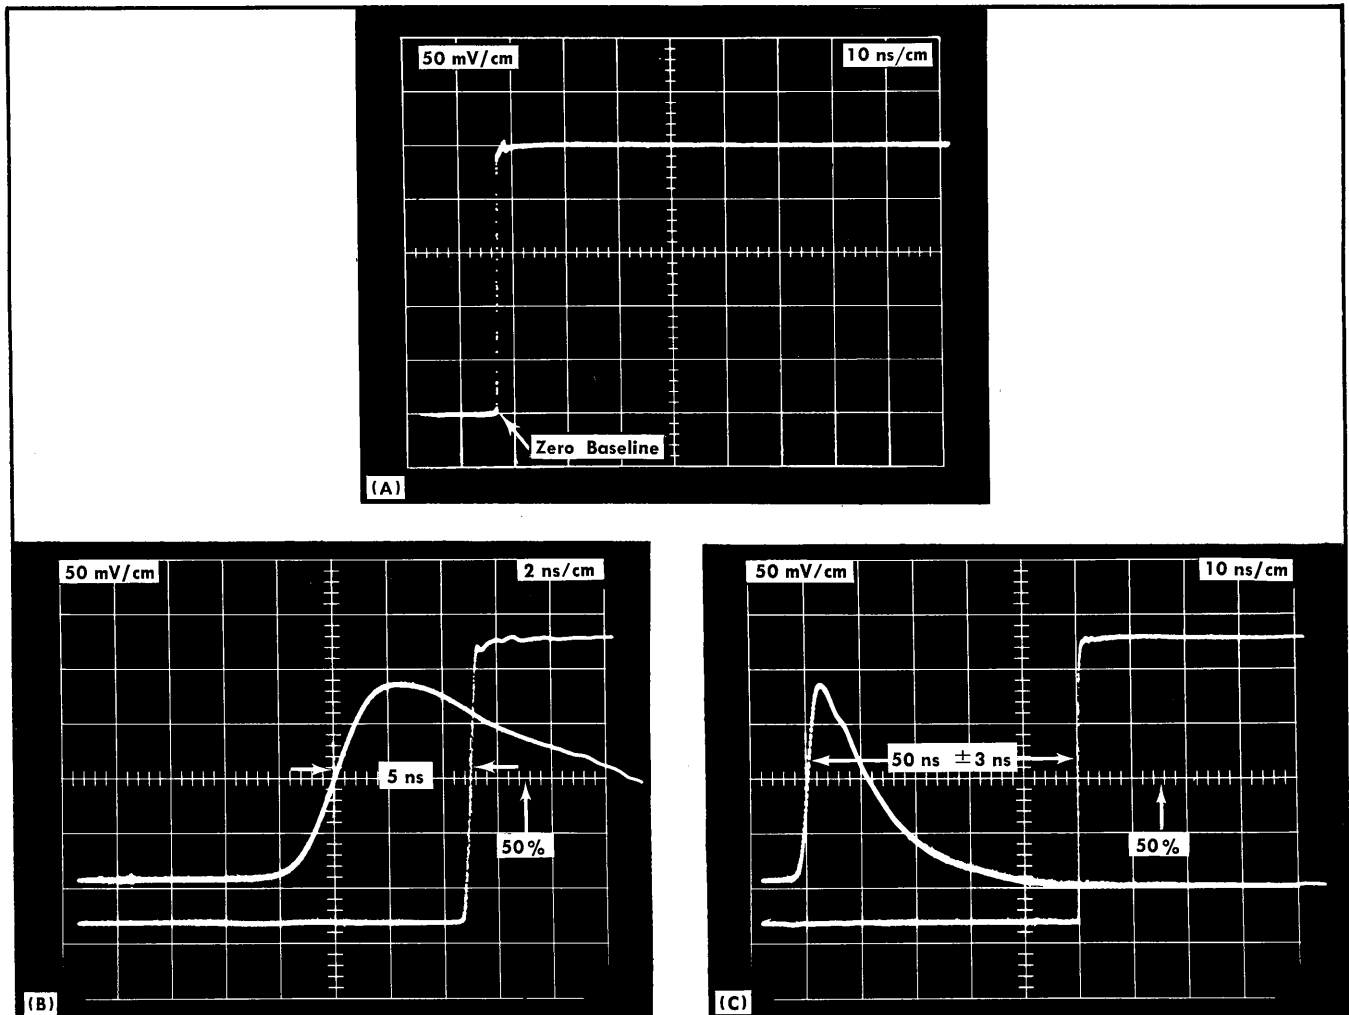

Fig. 6-26. Typical displays (A) used in steps 15 and 16, (B) used in step 17, (C) used in step 18.
b. Adjust the Trig Level on the Type 5T3 for a stable trace. The trace should appear similar to Fig. 6-26 if the TD BIAS is properly adjusted.
If no triggered display can be obtained, use the following preliminary procedure. Turn the TD BIAS control clockwise before adjusting the Bias Balance control by the above procedure. Since the TD BIAS adjustment will slightly affect the Bias Balance adjustment, step 16 must be repeated with the triggered display similar to Fig. 6-26.